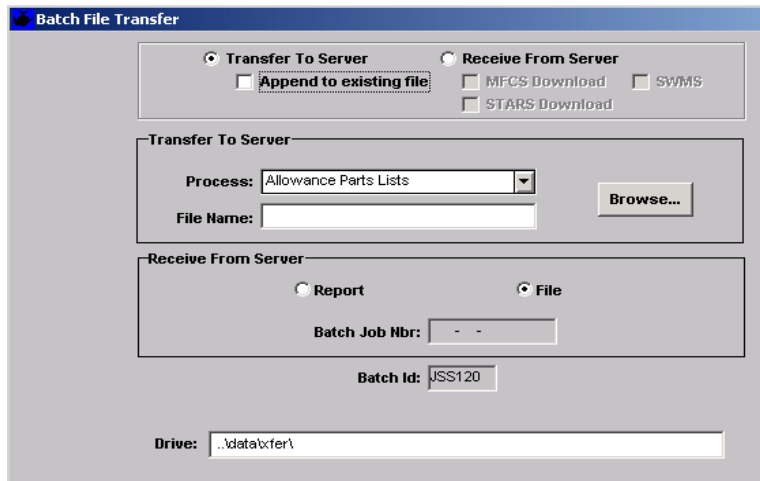

Figure 3.2
- 3.1.1 With **Transfer To Server** selected on the **Batch File Transfer** window (Figure 3.2), select **Append to existing file** as applicable.